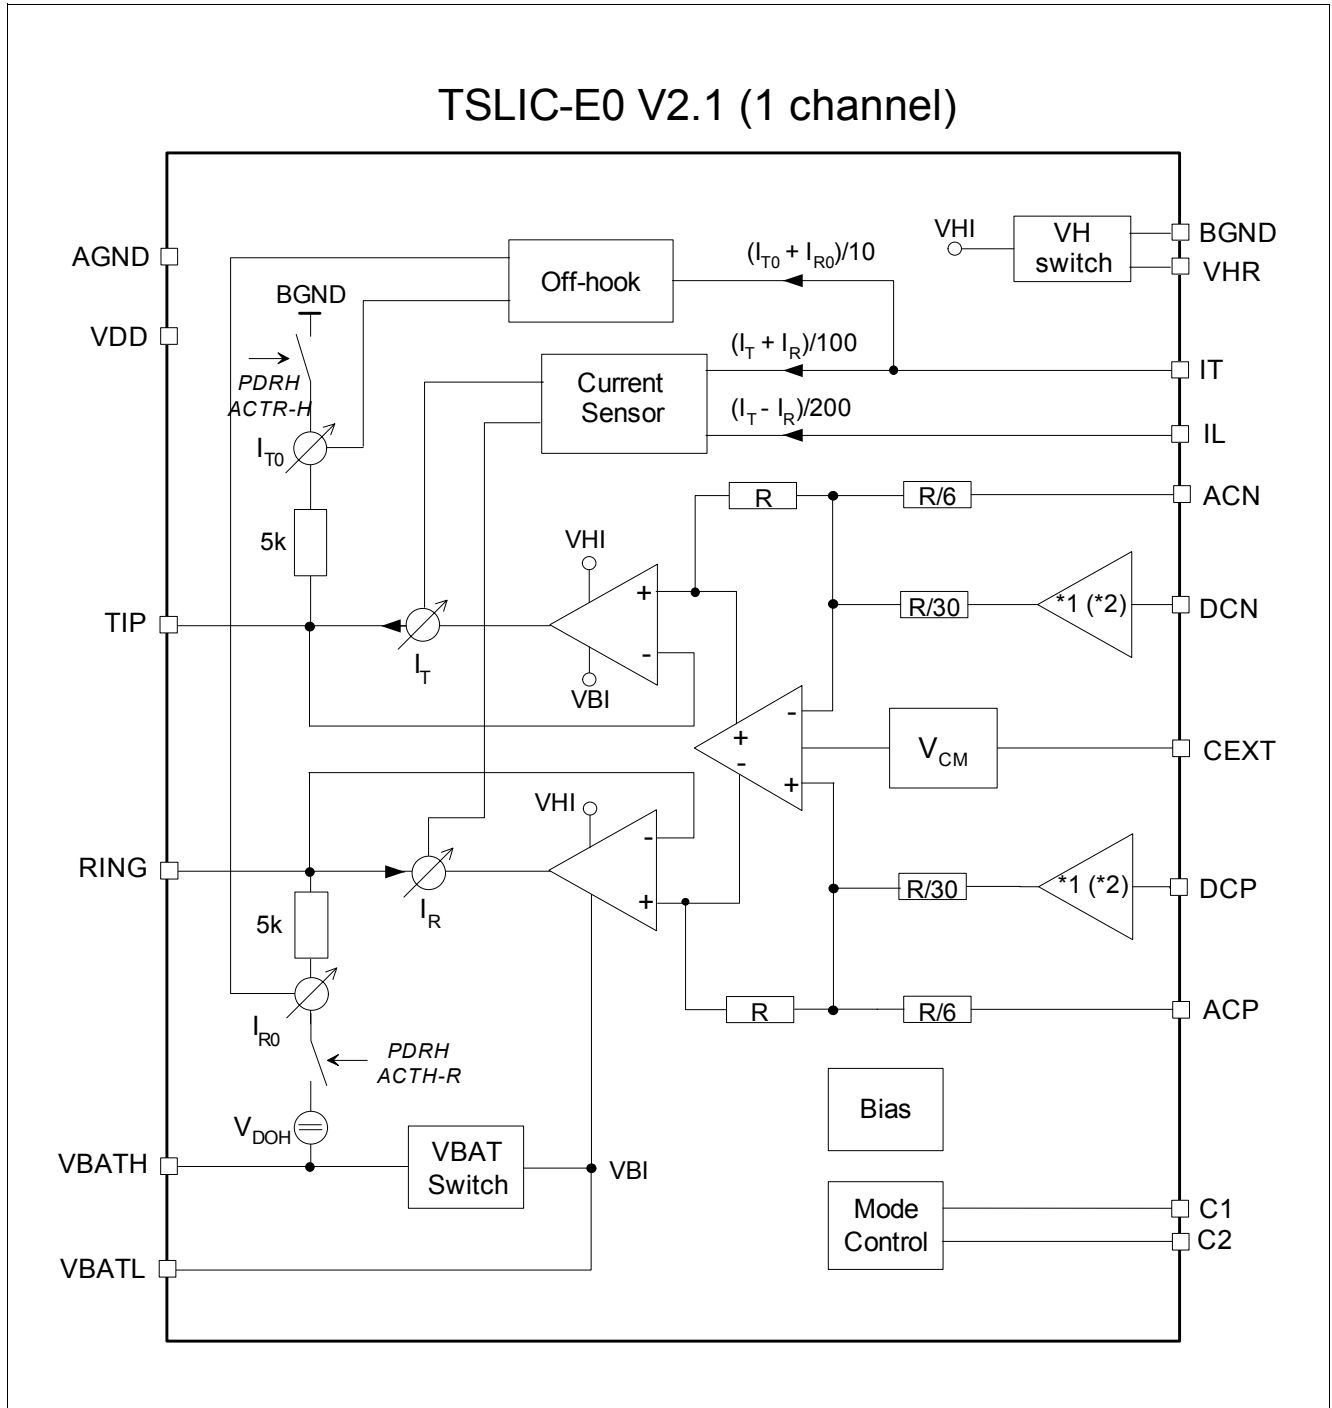

Figure 3 Block Diagram TSLIC-E0 (one channel)
Functional block diagram is shown in Figure 3.
Power consumption is reduced to a minimum by switching completely off all voice transmission functions. To allow off-hook detection, PDRH provides a connection of 5 k Ω each from TIP to BGND and RING to VBATH, respectively, while the output buffers show high impedance (see Figure 3). The current through these resistors is sensed, scaled by 1/5 and transferred to the IT pin for off-hook supervision.
3) Due to the changed battery switch concept (see Figure 3), the VBATL series diode must not be shared between different channels; one diode per channel is mandatory (also for applications with TSLIC).